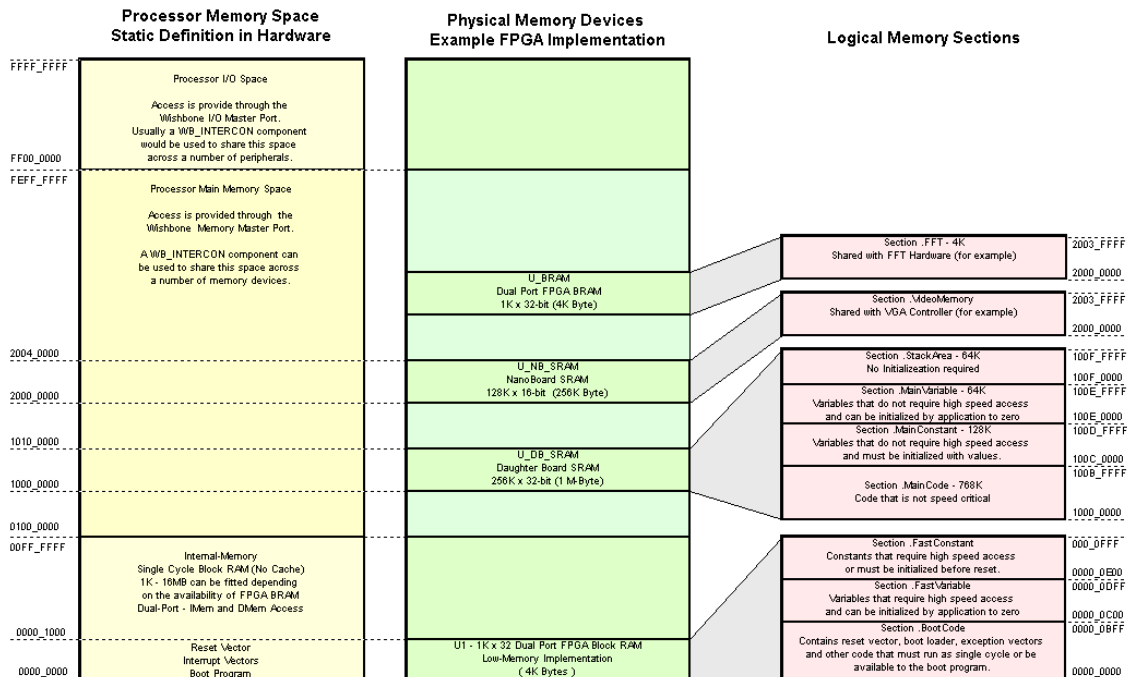

Figure 2. Allocating processor and physical device memory spaces.
When configuring processor memory, the physical memory devices are mapped into the processor’s address space – in the Internal and External Memory ranges – but can also be further broken down into separate logical spaces (or sections) for reference by and within the embedded source code. Figure 2 illustrates this concept of memory space allocation.
From left to right, Figure 2 shows:
- Physical memory spaces. In the example of Figure 2, there are four physical memory spaces – Internal Memory, Daughter Board SRAM, NanoBoard SRAM and FPGA BRAM. The dotted lines indicate where in the processor's address space these physical devices are mapped, and the sizing of each